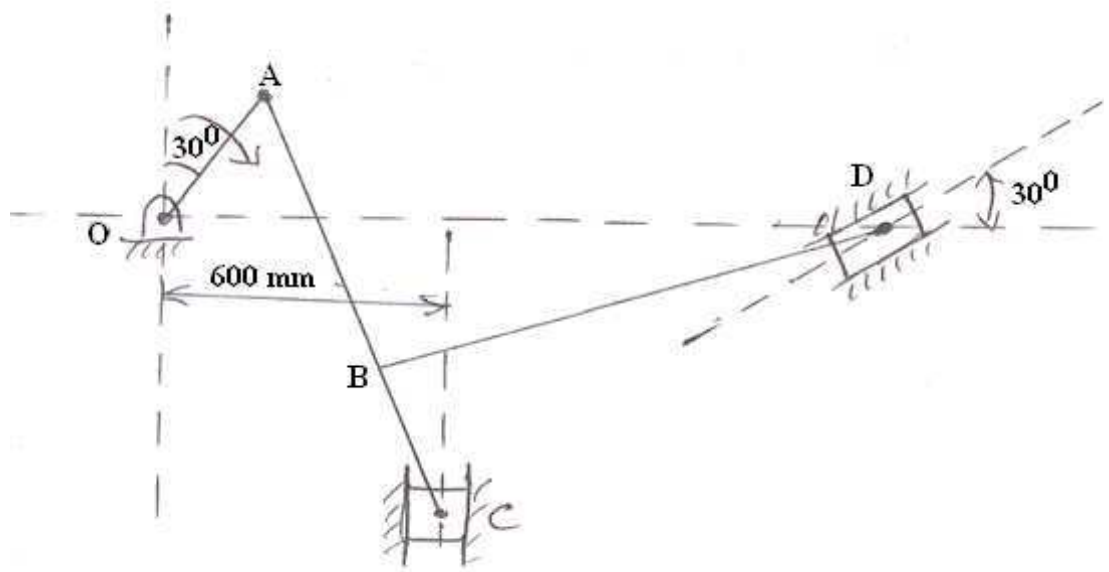

Figure 4b
- In the mechanism shown in figure 4b $OA = 300 \text{ mm}$, $AB = 600 \text{ mm}$, $AC = 1200 \text{ mm}$ and $BD = 1200 \text{ mm}$. OD is horizontal at the instant shown and OA rotates at 20 r.p.m. CW direction. Find